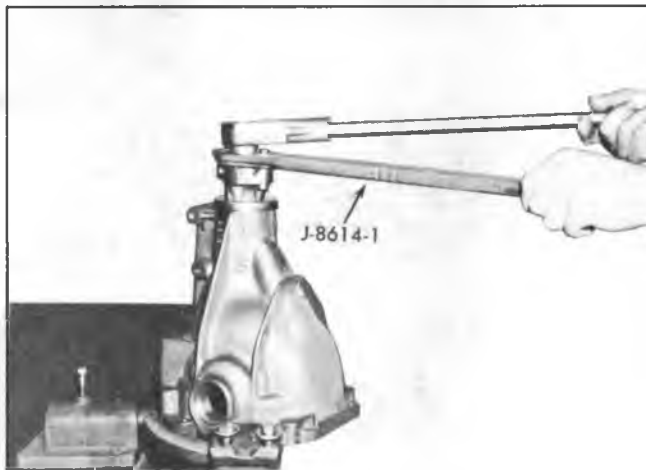

Fig. 8C--Removing Companion Flange Nut
2. Turn holding fixture over and remove companion flange nut using J-8614-1 Holder. See Figure 8C.